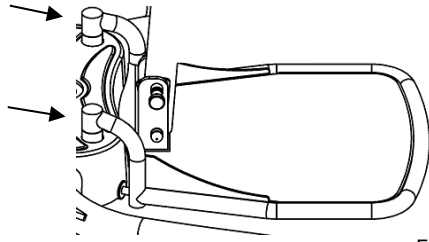

Fig. 1.6D
3. Mount the foot plate into the corresponding holes on the base. (Fig. 1.6D)